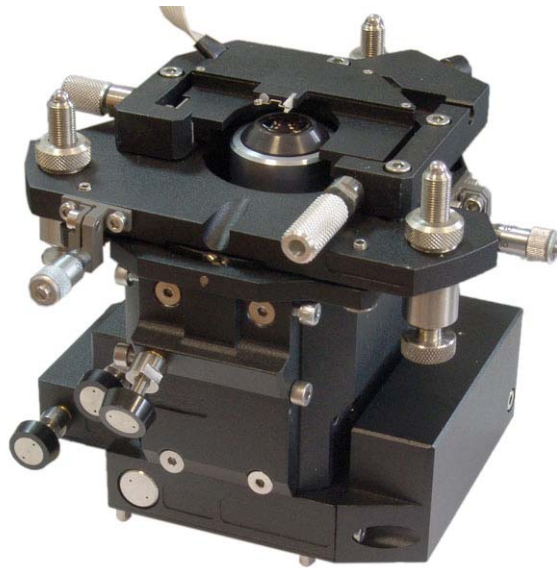

Fig. 11-5. STM tip holder installed
3. Place the STM tip holder so that support balls of the holder stand on sapphire seats on the base of the measuring head (Fig. 11-5). Screws of the measuring head must come to the corresponding slots with their caps.
4. Release the clamp (see Fig. 11-5).